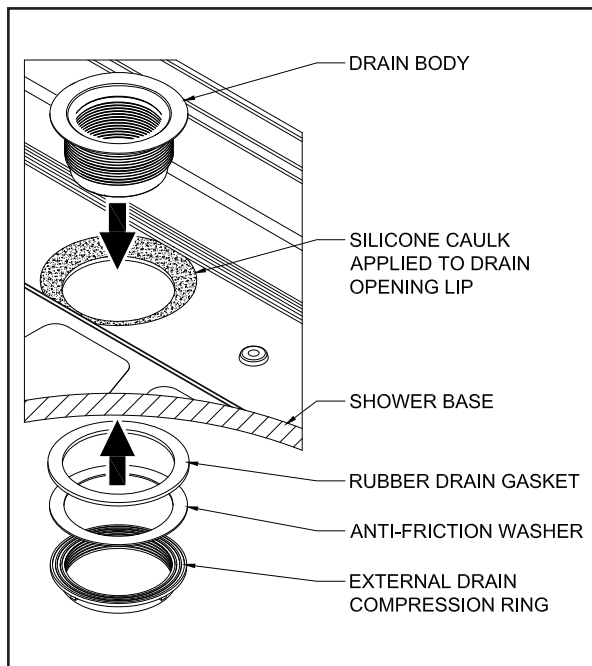

FIG. 5- DRAIN ASSEMBLY INSTALLATION
4. Apply appropriate silicone caulk to the drain opening lip on the shower base (**SEE FIG. 5**). Insert the Drain Body through the drain opening, fit the Rubber Drain Gasket and Anti-Friction Washer to the underside of the Drain Body, and secure with the External Drain Compression Ring. Tighten Ring enough to compress the Rubber Drain Gasket.